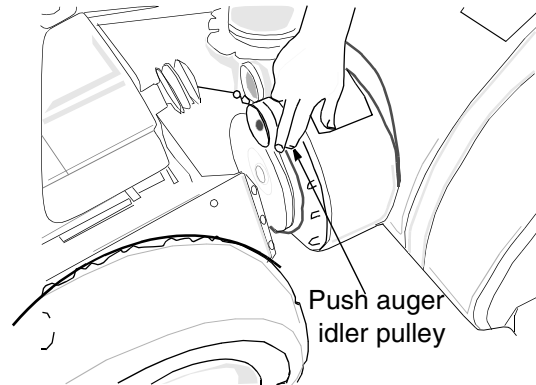

Figure 18
- To remove the front auger drive belt, push the idler pulley to the left. The belt brake should move outward. See Figure 18. Lift the front auger drive belt from the front auger pulley.